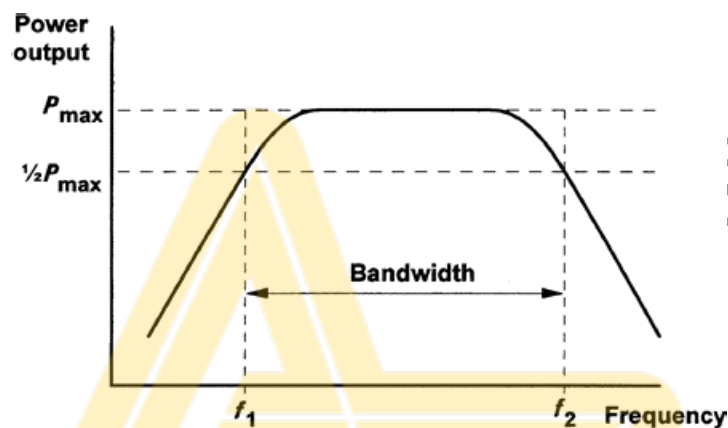

Figure 1.22 Frequency response and bandwidth (output power plotted against frequency)
- Figs 1.22 and 1.23, respectively, show how the bandwidth can be expressed in terms of either power or voltage (the cut-off frequencies, f_1 and f_2 , and bandwidth are identical).